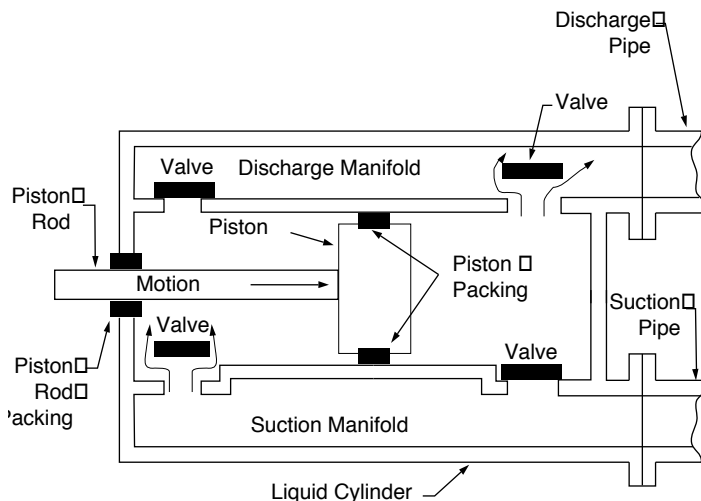

FIGURE 71. Double-Acting Liquid End
- Many reciprocating pumps are double-acting, i.e., they make two suction and two discharge strokes for one reciprocating cycle. Most double-acting pumps use a piston, which as a displacing solid is sealed to a bore within the liquid cylinder. Figure 71 shows a double-acting liquid end.